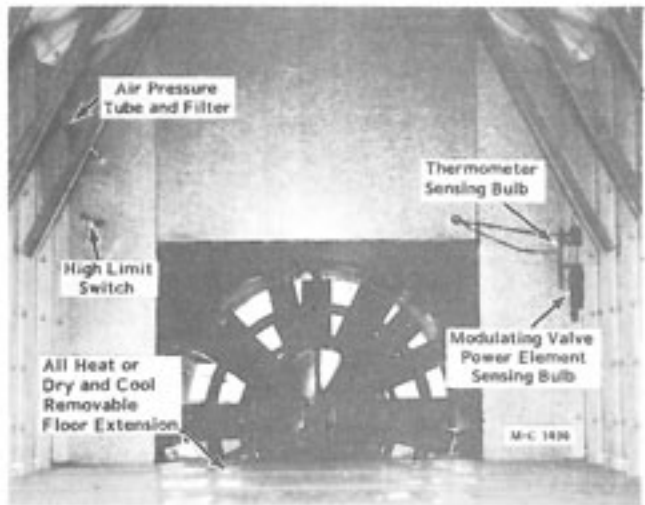
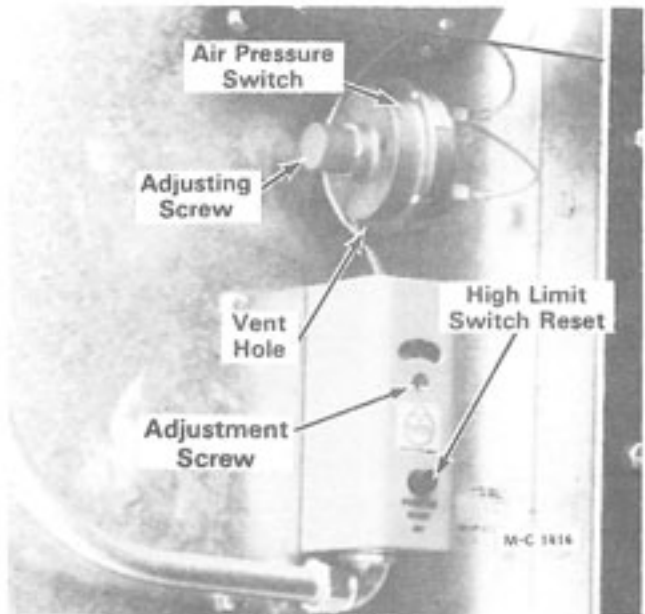

Figure 30
Figure 31
6. Remove the air pressure switches and clean the tube and filter, see Figure 30. Be sure the  $\frac{1}{8}$ " vent hole in the bottom of the air pressure switch is open, see Figure 31.
- Disconnect the two wires at the back of the air pressure switch. See Figure 31. Connect the two wires together with a short jumper wire. Do not allow the jumper wire to come in contact with any metal. This will by-pass the air pressure switch.